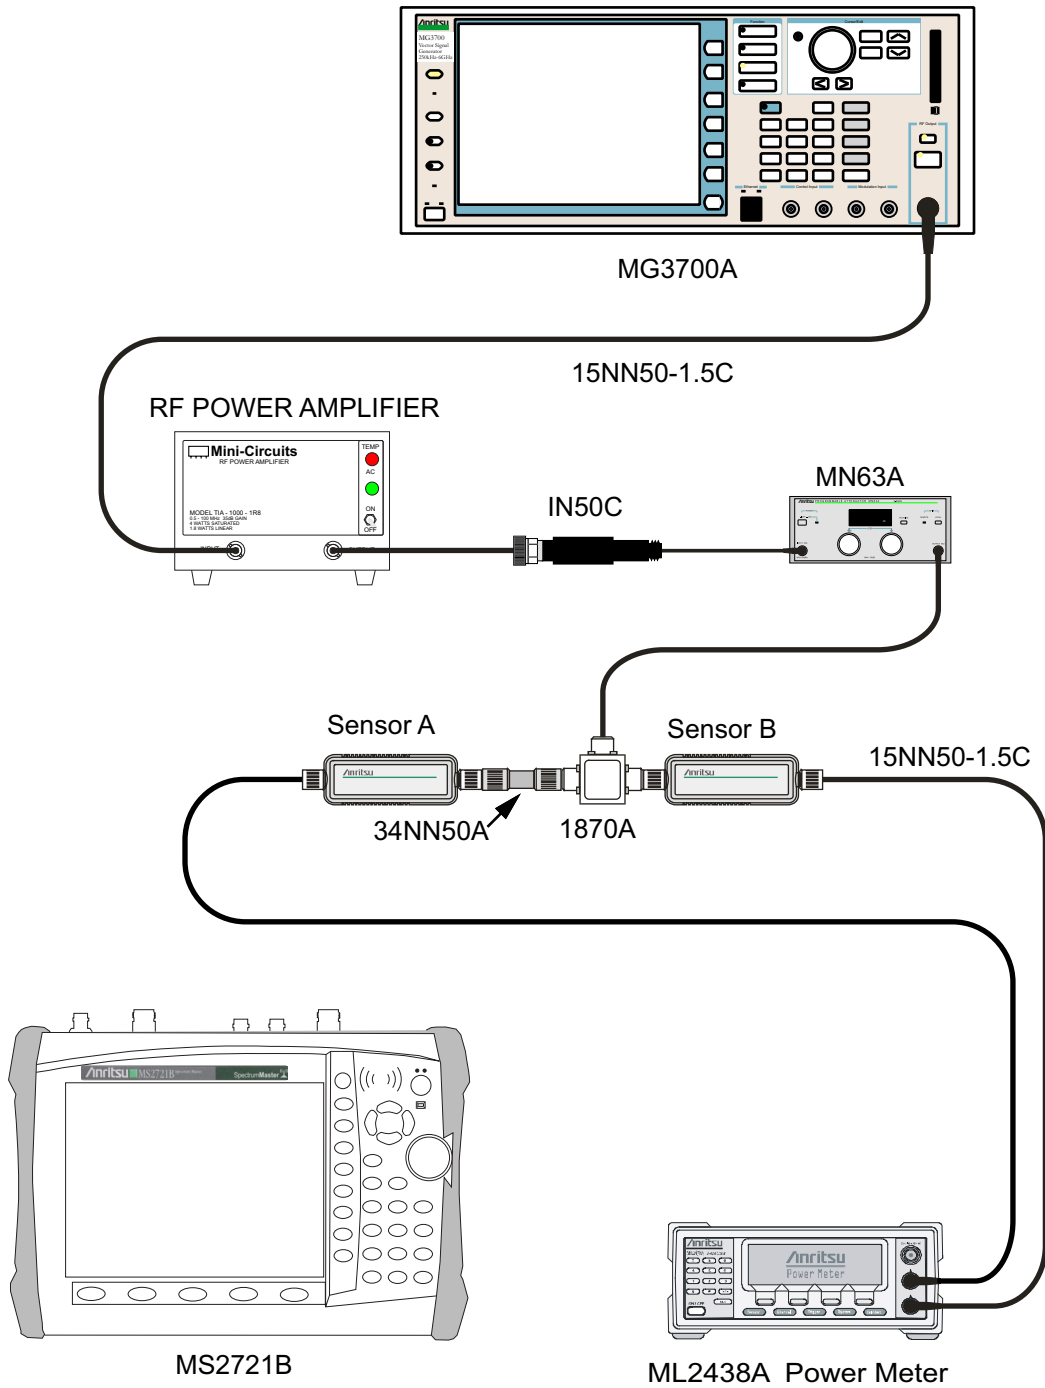

Figure 3-23. DVB-T/H Option 64 – 1 dB Compression Level Verification – Two Sensors
4. Connect the MG3700A Signal Generator, Power Amplifier with N(f)-to-BNC(m) Adapters, RF Limiter, MN63A Programmable Attenuator, Power Divider, Power Meter, and Power Sensors as shown in Figure 3-23.
40. Remove the MS2721B from the test setup and reinstall Sensor A to the open splitter output as shown in Figure 3-23, “DVB-T/H Option 64 – 1 dB Compression Level Verification – Two Sensors” on page 3-86.
49. Remove the MS2721B from the test setup and reinstall Sensor A to the open splitter output as shown in Figure 3-23, “DVB-T/H Option 64 – 1 dB Compression Level Verification – Two Sensors” on page 3-86.